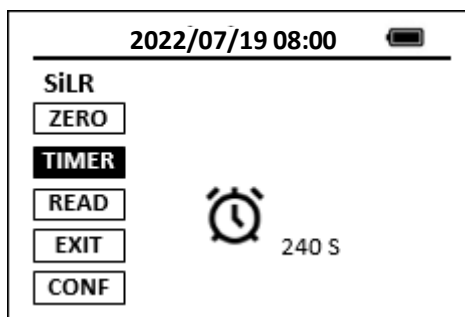

Figure 12. Multiple Timer Method
Some colorimetric methods have two or three timing steps. The AP50MM shows a count-down timer for the timing steps before the last timing step (Figure 12). During these timing steps, one or more reagents are added to the sample, or operations such as swirling the vial to mix the reagent and the sample are being performed. These methods usually use one vial for the prepared blank and the other for the prepared sample.
In order to show the concentration-time curve as shown in Figure 12 during the last timing step, The AP50MM must be zeroed using the prepared blank before the last timing step. Thus, the last timer button will not be selectable until the AP50MM has been zeroed using the prepared blank. Multi-timing step Hach® methods require zeroing the colorimeter using the prepared blank after the last timing step is completed. The SP- 800 can optionally be re-zeroed using the prepared blank after the last timing step. The blank value measured will be subtracted from the concentration value measured at the end of the last timing step. Optionally, the **READ** button could be pressed to read the prepare sample again.
3. Place the prepared sample into the AP50MM sample vial compartment and press the **TMR2** button to start the second timer. The AP50MM will display the measured concentration as a function of time as shown in Figure 12.